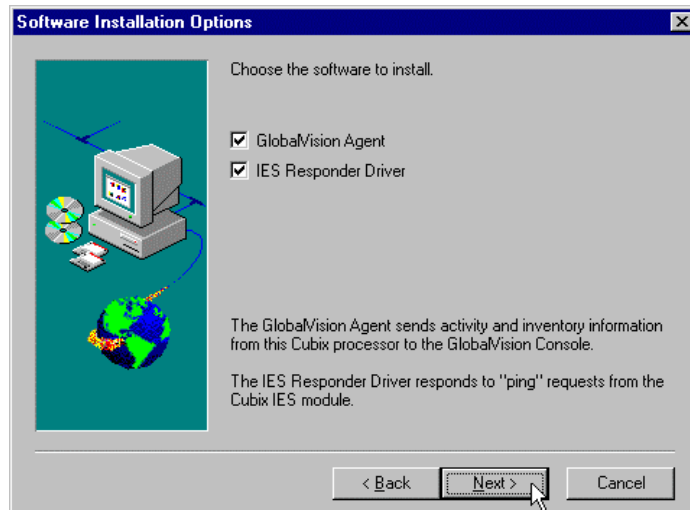

Figure 35 – Software Installation Options dialog box
7. Next, the **SOFTWARE INSTALLATION OPTIONS** dialog box appears. Ensure that **GlobalVision Agent** and **IES Responder Driver** are selected. Click **NEXT** to continue installation. See Figure 35.